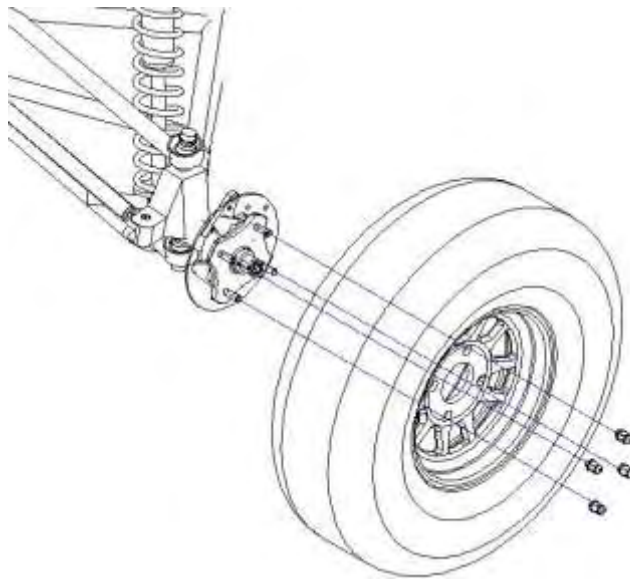

FIGURE 16
(See Fig. 16) Tighten the nuts after replacing the wheels.
- 3.1.3. Remove the iron dust plug, this plug has a magnet on it. Iron dust caused by moving parts will stick to the plug. Clean the iron dust from this dust plug (**see Fig. 16**).
- 3.1.4. Tighten the transmission oil outlet plug and the iron dust plug(**see Fig. 16**).